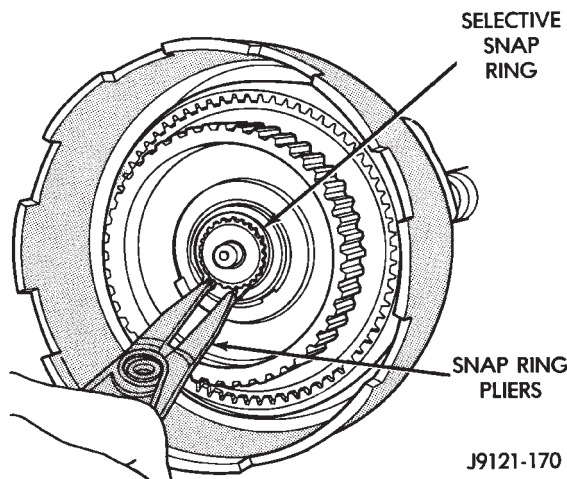

Fig. 84 Installing Planetary Selective Snap Ring
(22) Install planetary selective snap ring with snap ring pliers (Fig. 84). Be sure ring is fully seated.